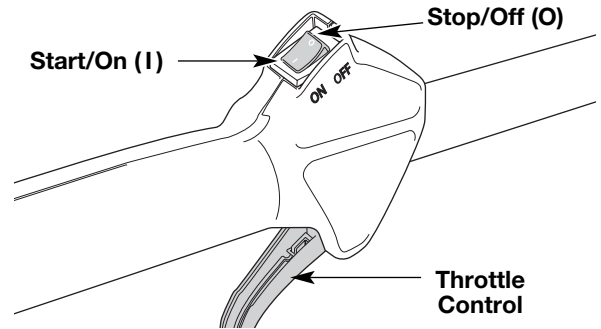

Fig. 6
**NOTE:** There is no need to turn the unit on. The On/Off Stop Control is in the ON (I) position at all times (Fig. 6).
2. Put the On/Off Stop Control in the OFF (O) position (Fig. 6).